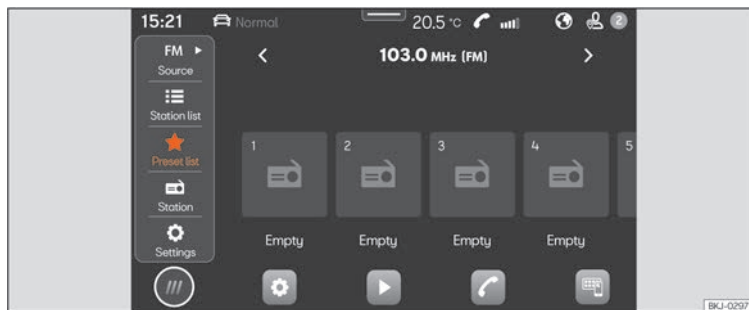

Fig. 129 Schematic representation: Radio view
- Press **HOME** > >>> **Fig. 129**.